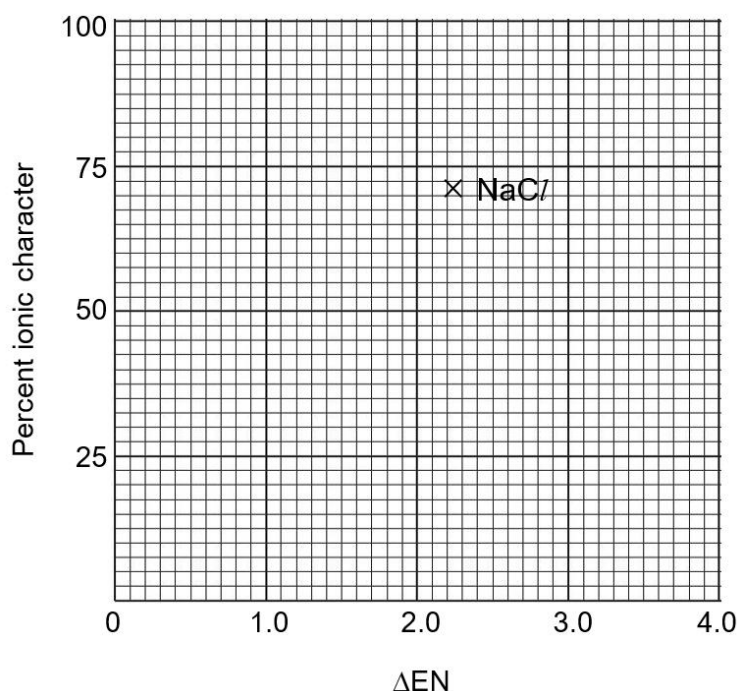

Fig. 1.1
The ionic character of a bond is directly related to the electronegativity difference (ΔEN) between the bonded atoms. Fig. 1.1 shows the plot of percent ionic character against ΔEN for NaCl.
- (ii) Using the values in Table 1.1, calculate ΔEN for AlCl_3 and PCl_5 respectively. Hence plot the percent ionic character of AlCl_3 and PCl_5 on Fig. 1.1. Label your points clearly.